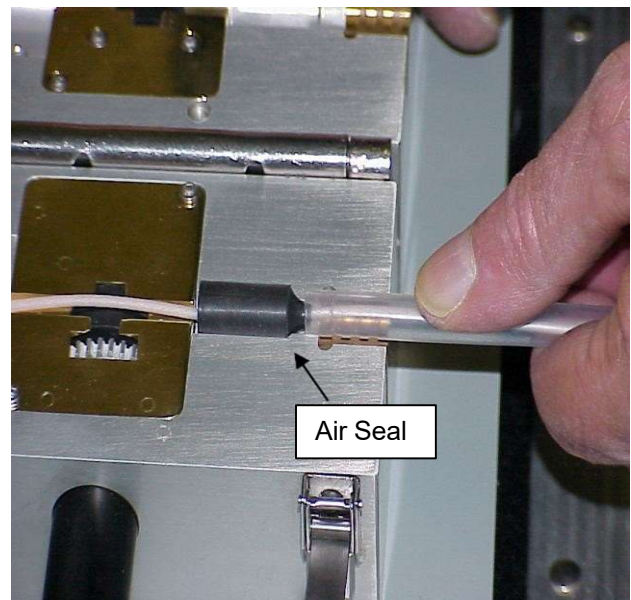

Figure 9
11.4 When tube span has de-pressurized, open Blowing Head and carefully remove Fiber Bundle Air Seal from around fiber bundle. **See Fig. 9.**